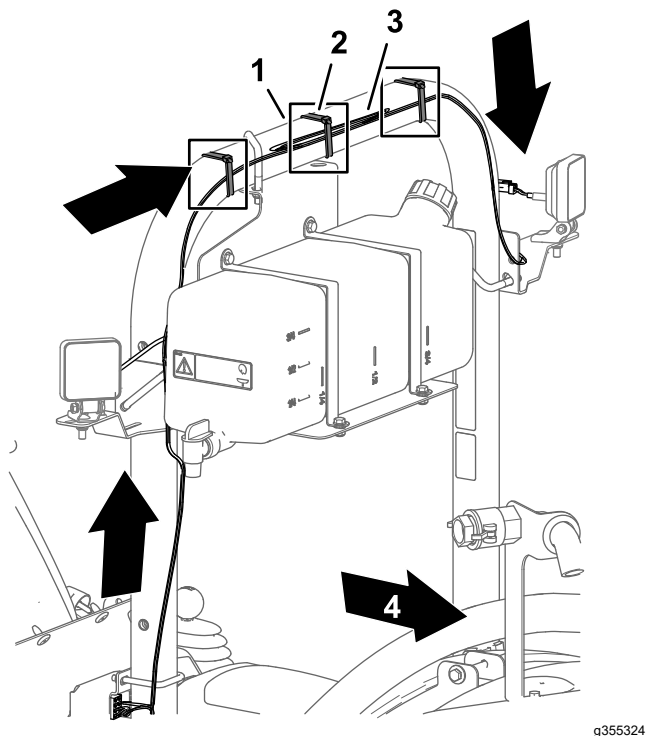
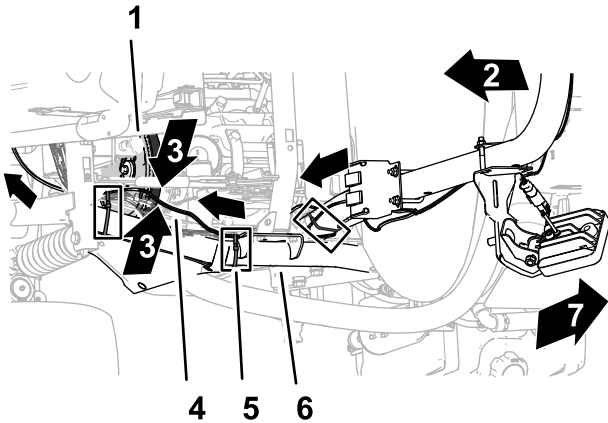
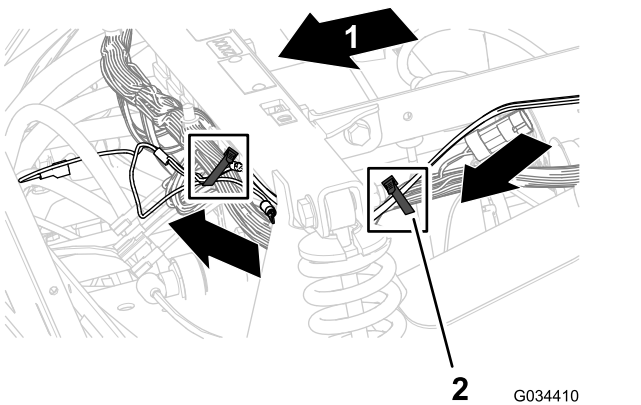

Figure 10
Figure 11
Figure 12
1. At the switches, route the branch of the wire harness with the 2-socket connector up and across the back of the horizontal ROPS tube as shown in Figure 10.
Note: Bundle the excess harness at the middle of the ROPS and secure the harness bundle with a cable tie as shown in Figure 10.
2. At the light switches, route the branch of the wire harness with the socket terminal and ring terminal down and forward as shown in Figure 11 and Figure 12.
- Secure the wire harness for the rear work light kit to the ROPS tube, upper, the front-frame tube of the machine, and the wire harness for the machine with cable ties as shown in Figure 10, Figure 11, and Figure 12.
Note: Bundle the excess harness at the upper, front-frame tube and secure the harness bundle with a cable tie as shown in Figure 11.